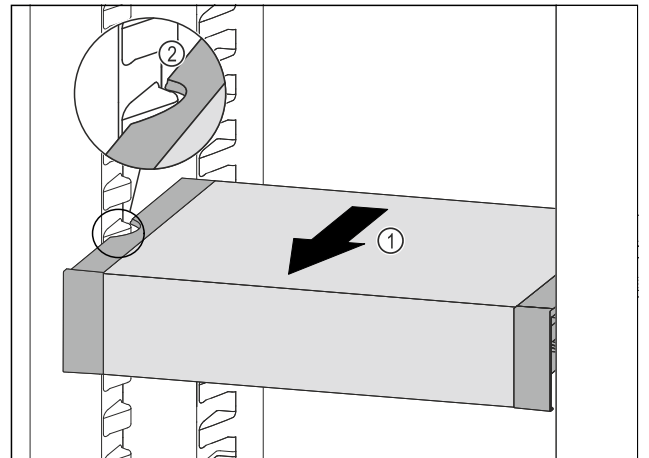

Fig. 87
- ▶ Pull VarioSafe forward Fig. 87 (1) until the recesses in the side of the VarioSafe are at the level of the support rib in the refrigerator compartment. Fig. 87 (2)